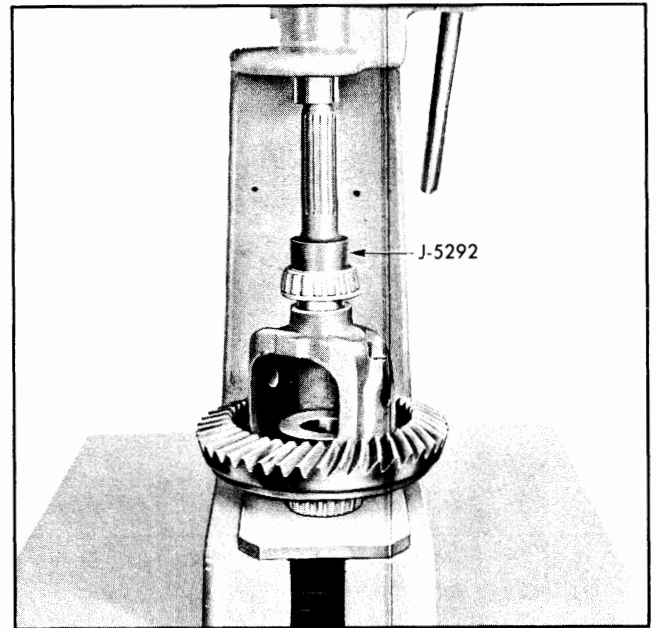

Fig. 4-56 Installing Side Bearings with J-5292
6. Reverse differential case and press on right side bearing, using J-5292, (Fig. 4-56).